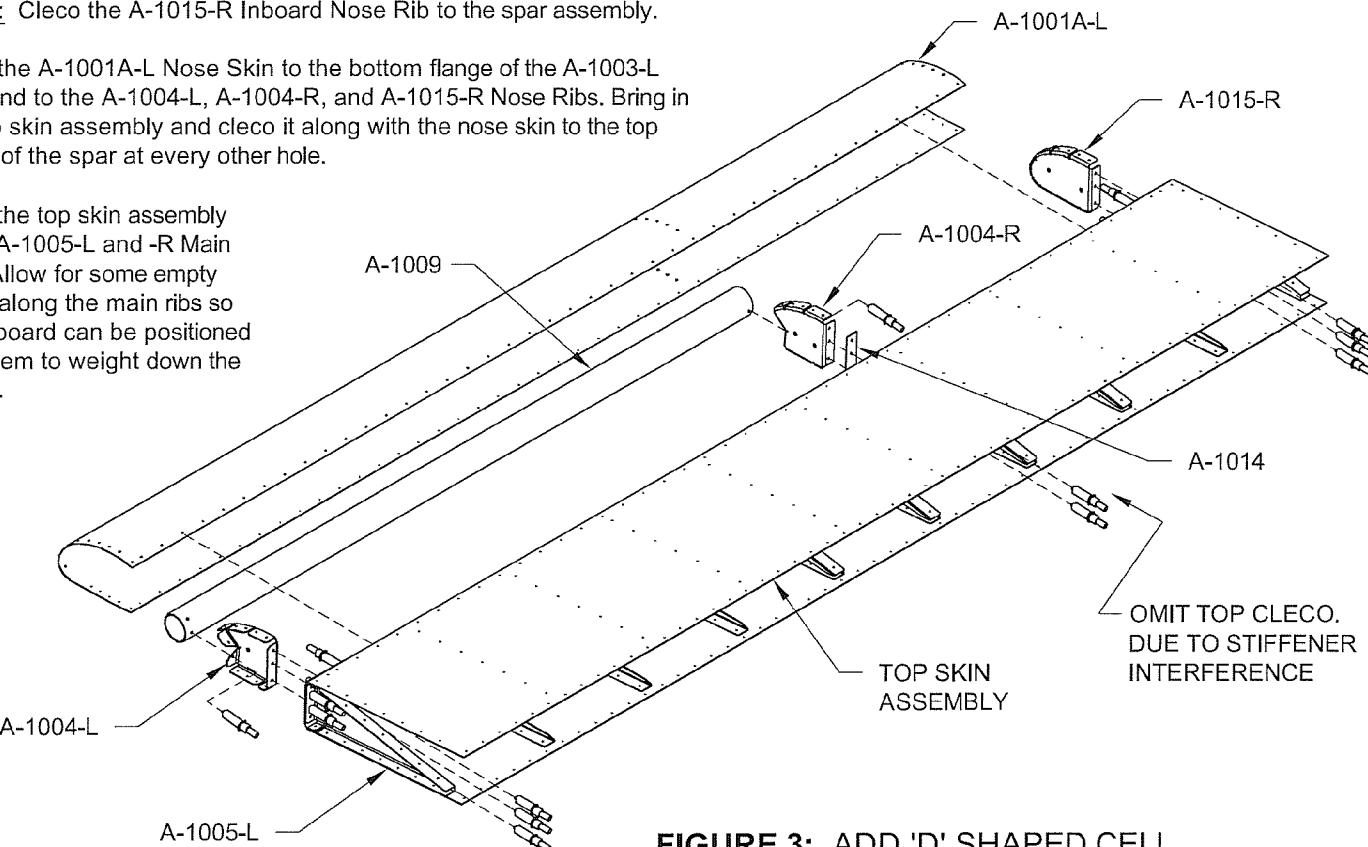

FIGURE 3: ADD 'D' SHAPED CELL
Step 4: Cleco the A-1004-L and A-1004-R Nose Ribs to the A-1009 Counterbalance as shown in Figure 3.